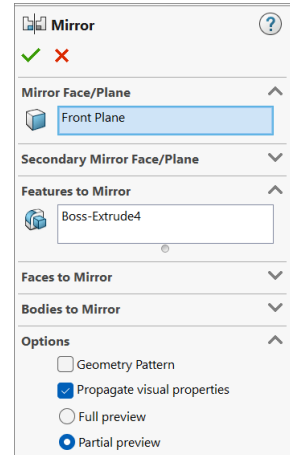

Fig. 75
Step 3. In the Mirror Property Manager click OK , **Fig. 75**.